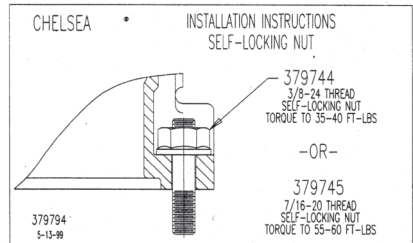

Fig. 8
- Use Self Locking nuts provided with P.T.O. (Fig. 8). **NOTE: Self Locking nuts do not require lock washers.**